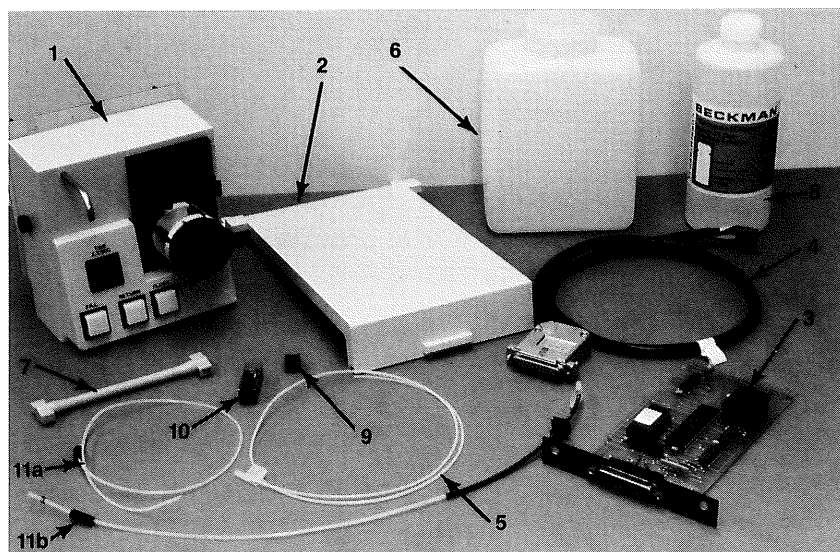

Figure 1a.
Peltier Sipper Accessory, P/N 523713, which includes parts 1 to 9 shown in Figure 1a and:
- 14c. Waste tubing, 1 each, P/N 589549 (shown as #5 in Figure 1a.)